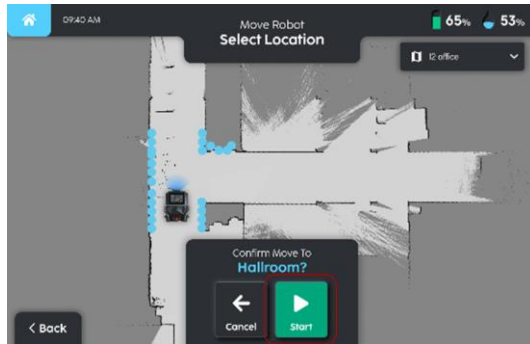
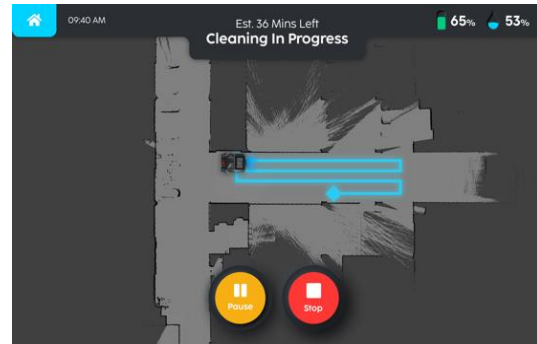

FIGURE 9-7
FIGURE 9-8
3. Upon confirming the selection (Fig. 9-7), robot will start to move. Pausing / stopping of movement can be done by clicking on either the 'Pause' or 'Stop' button respectively (Fig. 9-8).